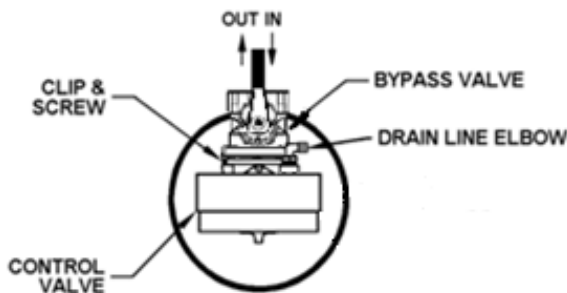

FIGURE 2: Top View of NB Control Valve
- STEP 7:** If not factory installed, use the clips and screws provided and attached the bypass valve to the inlet/outlet of the control valve. See Figures 2, 3, and 4 below.
- STEP 10:** Attach plumbing. **DO NOT** apply heat to any fitting connected to bypass valve or control valve, as damage may result to internal parts or connecting adapters. **MAKE CERTAIN WATER ENTERS THROUGH INLET AND DISCHARGES THROUGH OUTLET** (See figure 2).